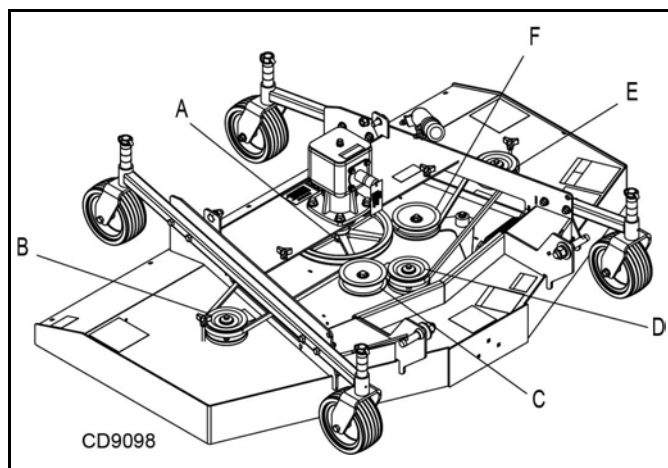

Figure 17. Belt Routing
1. Route belt around spindle sheave B, backside idler C, and spindle sheave D as shown in Figure 17.